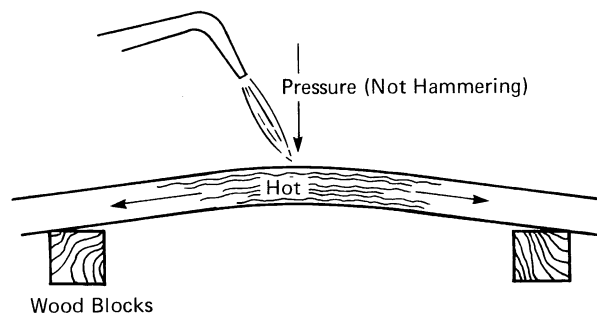

Fig. 4-19 Frame straightening
**Straightening.** Bent tube-frame sections can often be repaired by heating and bending them back to the original shape. Since the reshaped frame may not be as strong as it was originally, some bracing and gusseting or tube sleeving may be necessary. Use a neutral flame on an acetylene torch and heat a large section of the area to be strengthened. Apply gentle, even pressure to the tubes until the original shape is attained (Fig. 4-19).